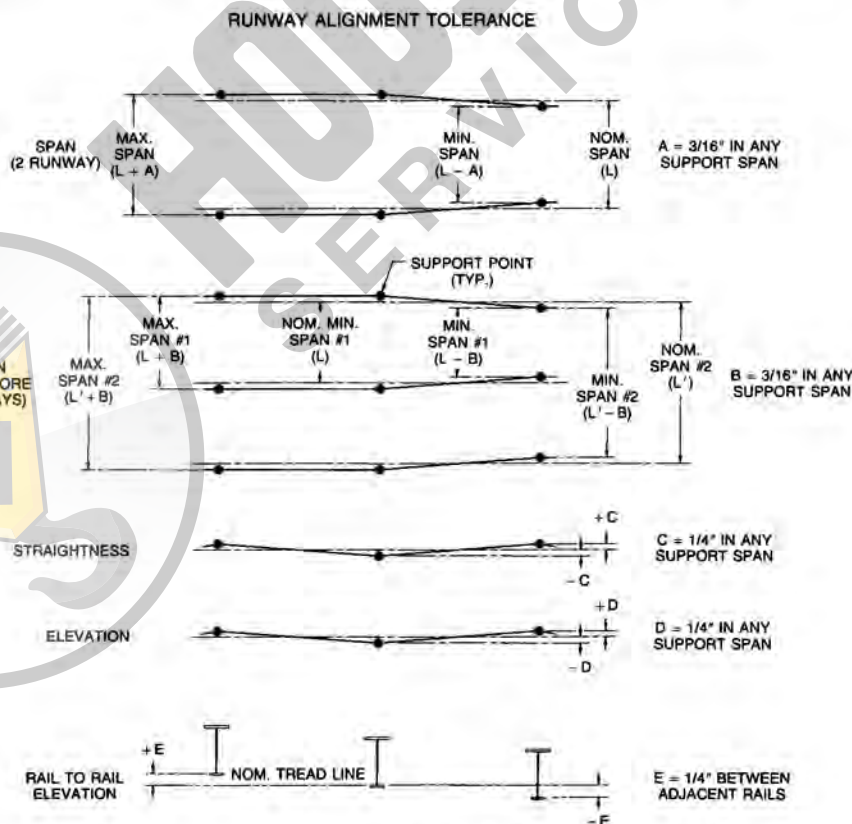

FIGURE 48
3. Track straightness and elevation shall not exceed the tolerances shown in Figure 48.
4. Runway track straightness and elevation, and runway span center-to-center distance shall not exceed the tolerances shown in Figure 48.